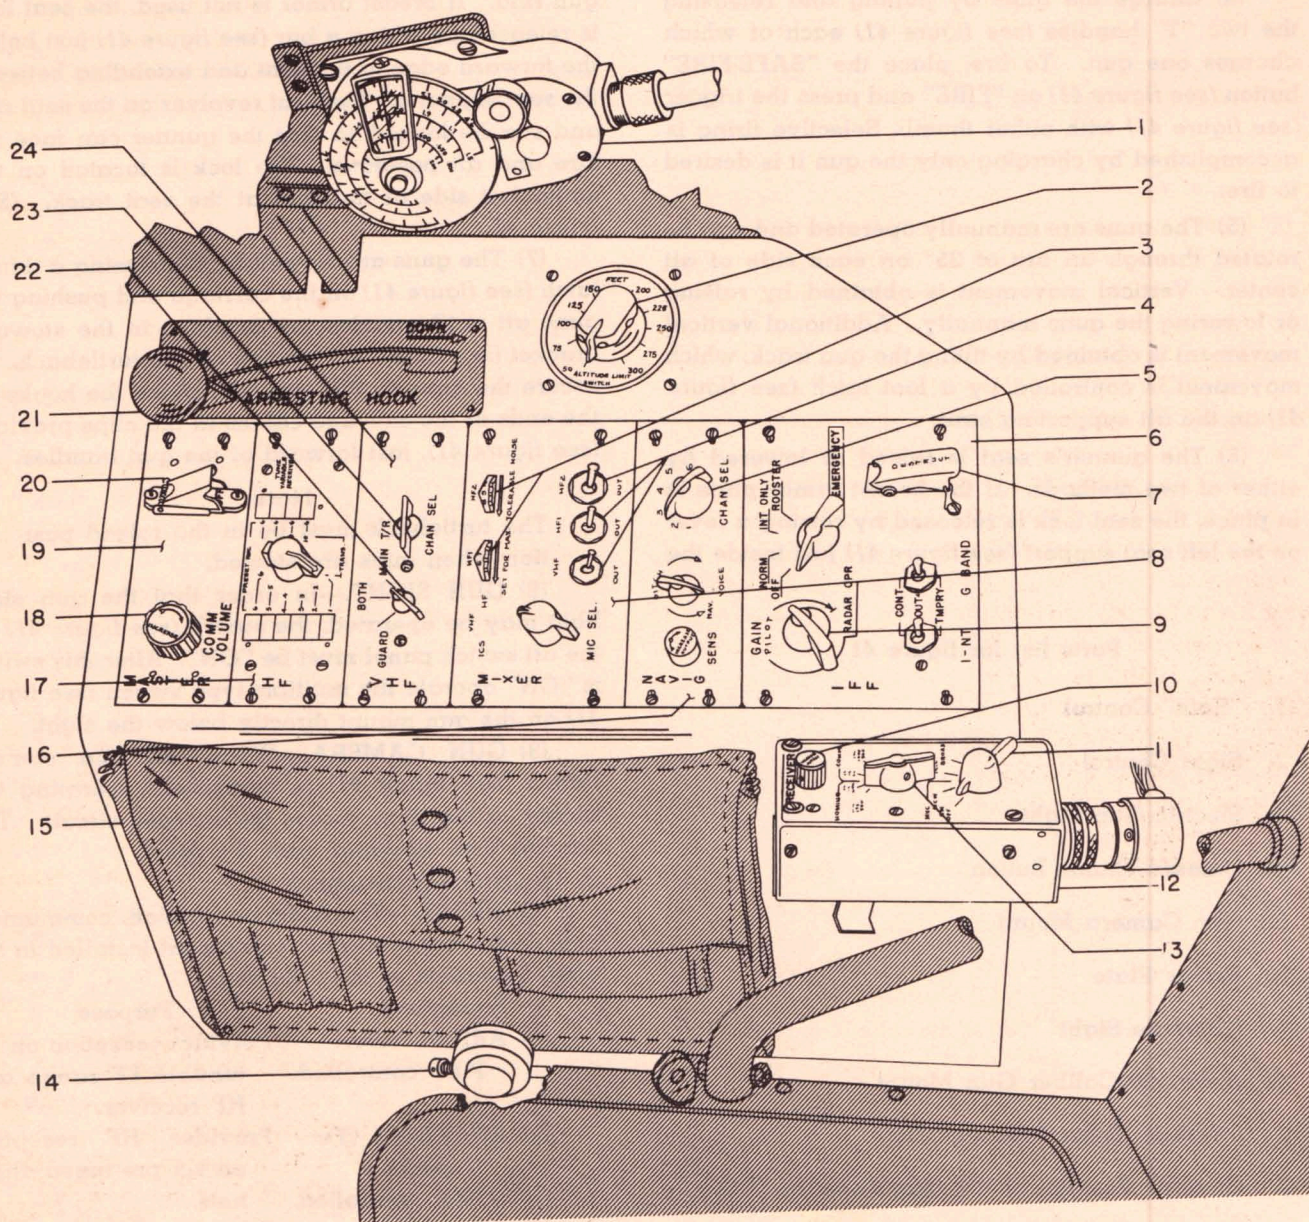

Figure 42—Aft Right Console
(1) UPON ENTERING COCKPIT.—Plug the headset into the phone extension cord leading to the jack box. Make certain that the microphone and headset plugs are fully engaged. If the use of a mask or lip microphone is anticipated, connect either one to the mask microphone cord.
(2) POWER FOR RADIO.—With the battery switch "ON," engine running and generator charging, turn on the radio master switch located on the "MASTER" panel. (See figure 42.) This supplies power to the radio and interphone equipment in the airplane. While waiting about one minute for the equipment to warm up, turn off all audio outputs by the following procedure: On the "NAVIG" panel (see figure 42), turn the "SENS" control counterclockwise to minimum. Throw the toggle switches on the "MIXER" panel (see figure 42) marked "VHF," "HF-1," and "HF-2," to "OUT." In the ferry installation, the "INCREASE OUTPUT" control on the "ARB" control box (see figure 42) should be at minimum (full counterclockwise).
(3) INTERPHONE TEST.—On the "MIXER" panel, set the "MIC SEL" microphone switch on "ICS"; press the press-to-talk switch on the microphone and call the radio operator. Release the press-to-talk switch while awaiting a reply. The "ICS" system should also be checked using the mask or lip microphone if such is provided. In this case, the throttle switch must be pressed in order to talk.